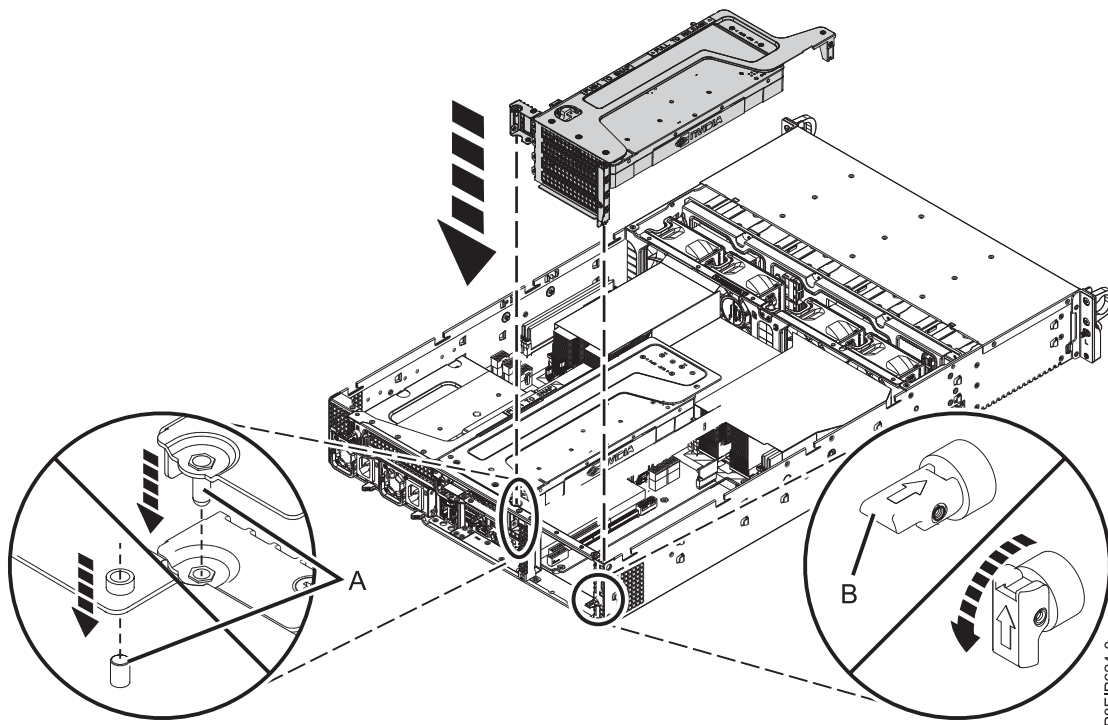

Figure 58. Inserting the PCIe adapter riser
- f. Insert the PCIe riser as shown in Figure 58 on page 46.
- 1) Retract the retaining pin (B) so the arrow points to the system.
- 2) Insert the riser, using the slots and alignment pins (A) to properly insert the riser. Push the riser firmly into the system backplane.
- 3) Set the retaining pin (B) to secure the riser.